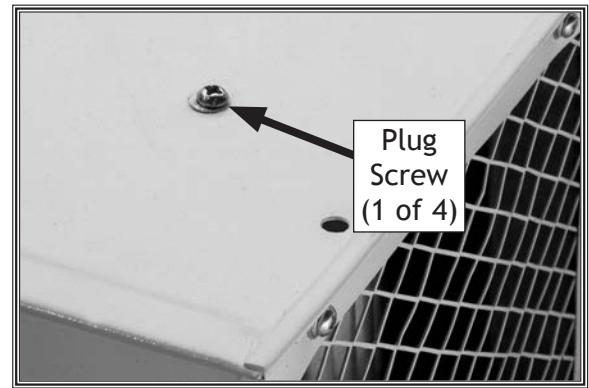

Figure 13. Plug screw.
1. Install (4) chains, cables, or steel strapping lines to ceiling from capable ceiling joists or supports so lines hang 15¹/₄" left-to-right and 24¹/₂" front-to-rear and air filter hangs 7' above floor when finished.
2. Remove (4) plug screws (see **Figure 13**).